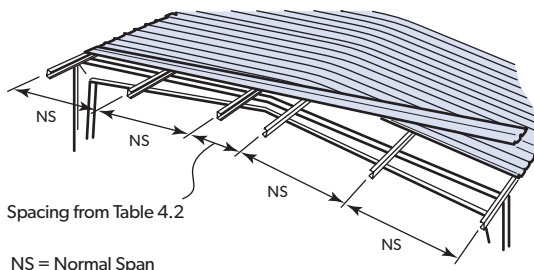

Figure 4.1.6:
** For Transverse Convex walling applications ENSEAM™ ribs should be pop riveted as per Figure 4.1.6 at max 500mm c/c